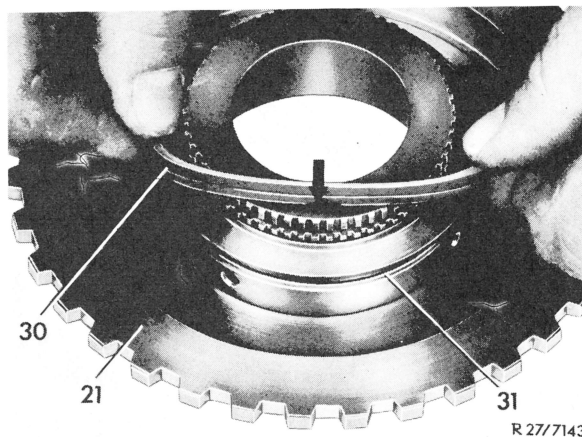

Fig. 11
17 Install new lip sealing ring (30) into supporting flange (21). The lip sealing ring should rest correctly in groove (31) and the lip should face downwards (in direction of arrow) (Fig. 11).
19 Lubricate lip sealing rings (29 and 30). Insert piston (22) into supporting flange. Use a pencil or ball pin to push sealing lip into supporting flange, then push-in piston without canting (Fig. 11 and 12).